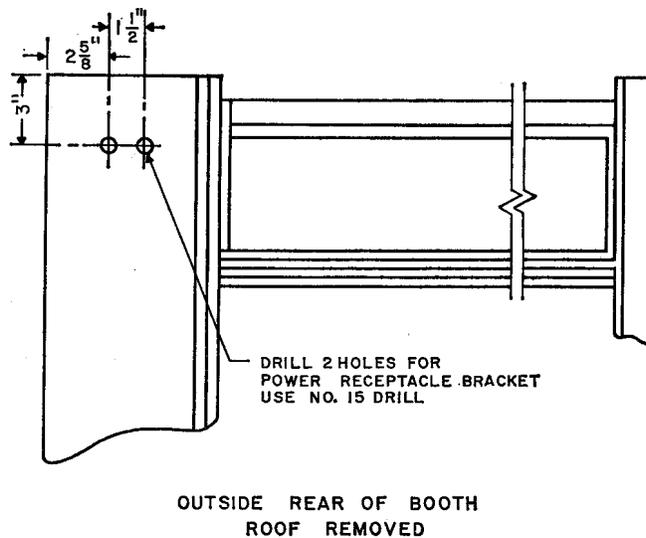

Fig. 1 – Holes for Mounting Receptacle Bracket
2. Drill holes for new receptacle bracket B-189783 as shown in Fig. 1.